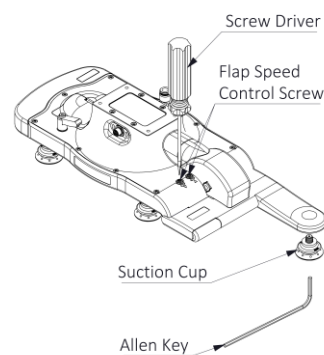

Figure 8: Flap Speed Control Screws and Suction cup replacement
The suction cups of casemagiQ are part of the consumables list that will get damaged due to wear and tear over time. Hence, it is important to regularly check them and replace them. As shown in Figure 8, use standard Hex key to easily unscrew the suction cups and replace them.
5. Quarterly, check all suction cups for damage and replace them, if need be, as shown in Figure 8.